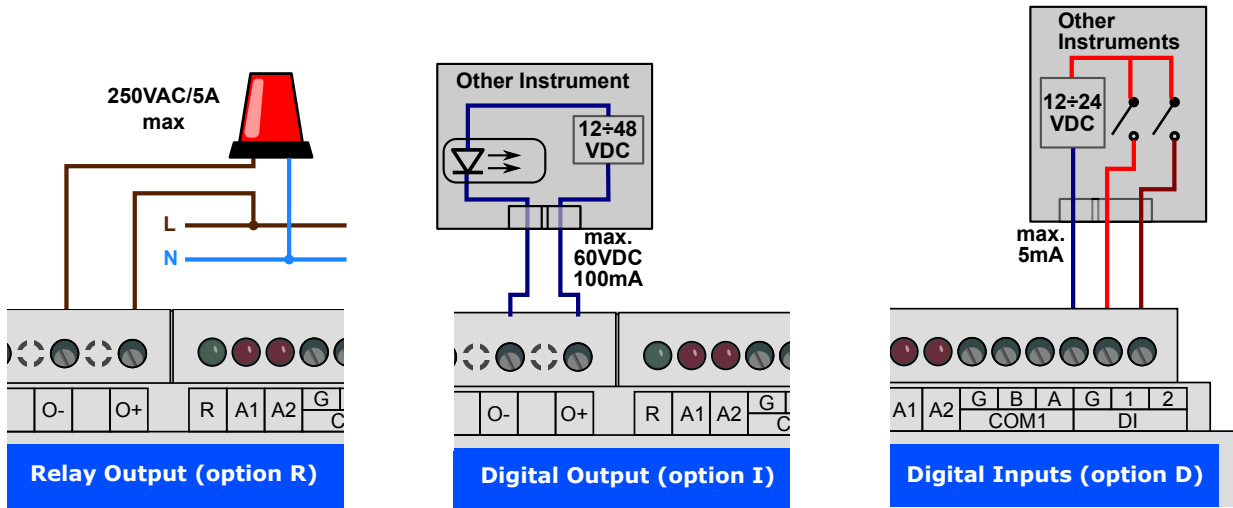

Figure 7: An example of wiring connection for inputs and outputs in SMC 144 .
**Digital Inputs (optional)** DI1 and DI2, sensitive to voltage, are using three terminals in  $COM2/DI$  block —  $G$  is common terminal,  $B/1$  is first and  $A/2$  is second digital input. Voltage lower than 3 V applied between  $G$  and digital input  $B/1$  or  $A/2$  is evaluated as inactive state, voltage greater than 10 V is evaluated as active state. On fig. 7 right there is a sample schema for connection of two external switches in series with voltage source of  $24V_{DC}$ .
**Digital Output (optional)** RO1 or DO1 is connected through terminals  $O+$  and  $O-$ . There must be an external voltage source in series ( $24V_{DC}$  is recommended). In case of solid state based DO outputs an external voltage supply polarity must comply with terminal poles (see fig. 7). In case of relay output the polarity can be freely chosen. Loads of maximum power of  $750VA/90W$  or  $3A$  can be controlled directly in  $230V_{AC}$  network.